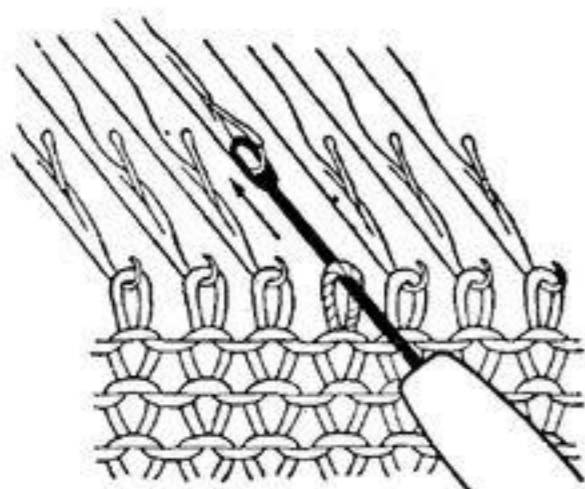

Fig. 35-3
3. Push the needle back until the stitch slips onto the Transfer Tool. (Fig. 35-3)